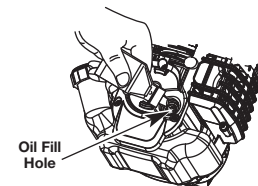

Fig. 2
4. Pour the entire bottle of oil into the oil fill hole (Fig. 2).